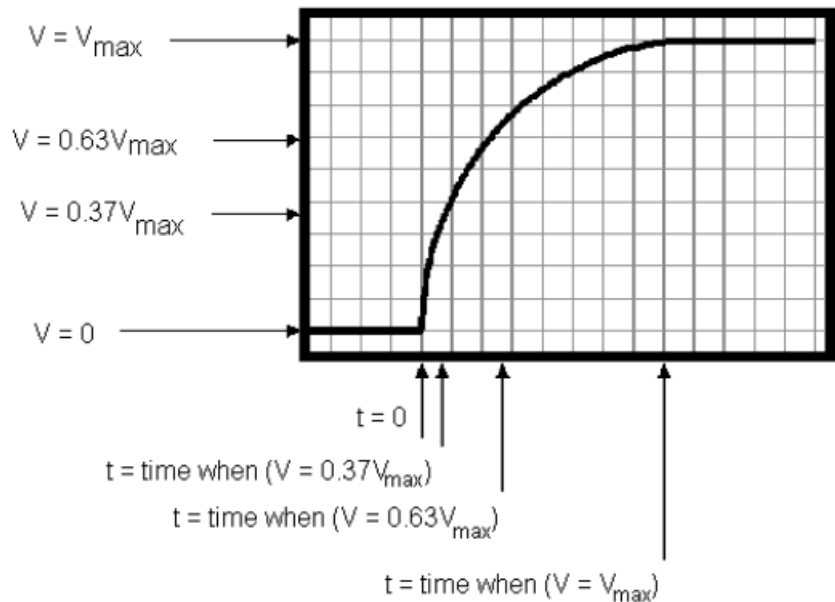

Figure 3: A Charging Capacitor
- 4 Turn on the scope and the function generator. Increase the amplitude on the function generator to about half of the maximum. Adjust the *gain* (volts/div) and the *sweep* (time/div) knobs on the scope until you see a trace that looks something like Fig. 3. It may be necessary to fine-tune the “trigger level” setting to get a clear display. Be sure that you can see the point corresponding to $t = 0$. Adjust the *vertical* shift knob on the scope and the amplitude knob on the function generator until the maximum and minimum voltage levels of the trace are aligned with the top and bottom horizontal grid lines (graticules) on the screen. Shift the *horizontal* position of the trace until the beginning of the charging or discharging curve lines up with a vertical graticule. This alignment with the grid lines makes it much easier to read measurements from the scope. Have your instructor check your display before you go further.